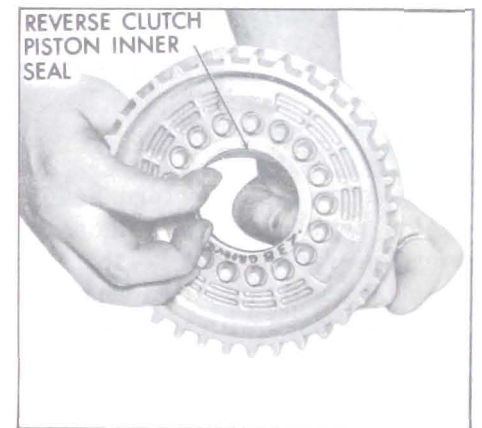

Figure 5-286
2. Lubricate with transmission oil and install reverse clutch piston inner seal. See Figure 5-286.